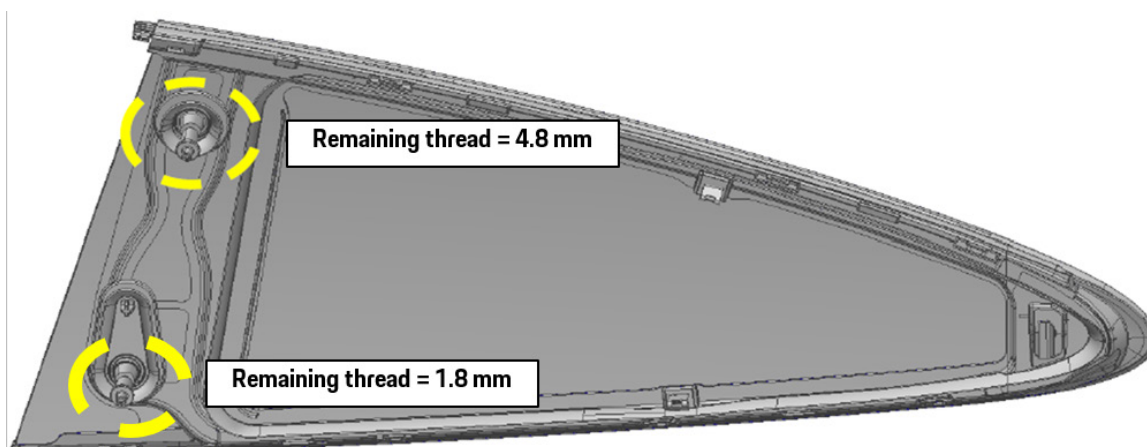

Figure 5
6. Ensure the adjustable bolts are the correct length. Note: The adjustment may change during screwing due to the bolt rotating. (See figure 5 for values.)